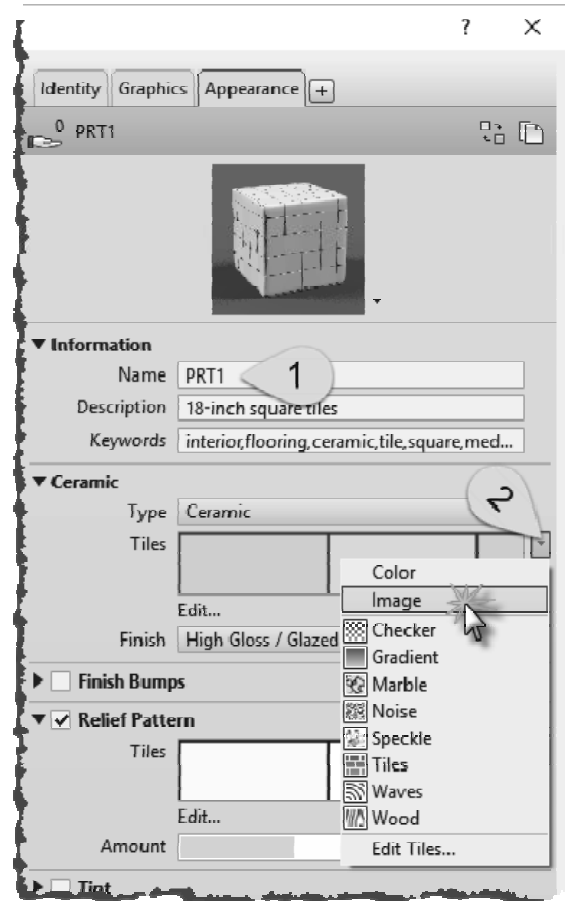

FIGURE 4-4.16 Appearance tab
66. Back in the *Material Browser*, with PRT1 selected, adjust the *Description* as shown in Figure 4-4.16.
67. Select the down-arrow to the right of the *Tiles* preview and select **Image** (Figure 4-4.16).